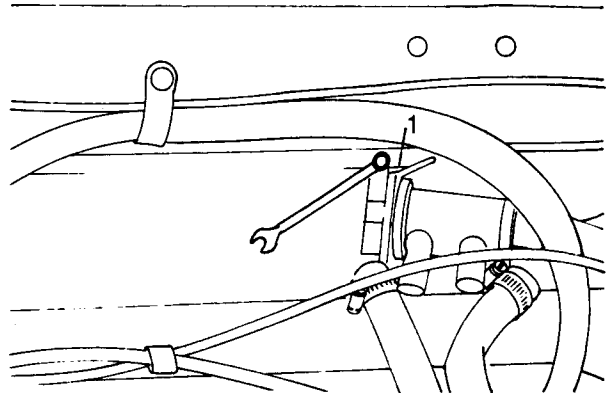

Fig B4.26
- (15) Refer to Fig B4.26. Connect the control cable (1) at the heater water valve.